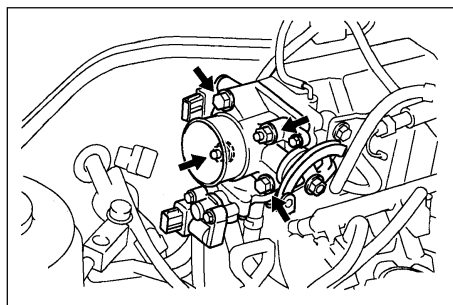

Figure 2-7
(1) Disconnect the connector of the throttle position sensor.
(2) Disconnect the connector of ISC valve.
(3) Remove 2 bolts and 2 nuts, and remove the throttle body from the suction manifold (see Fig. 2-7).